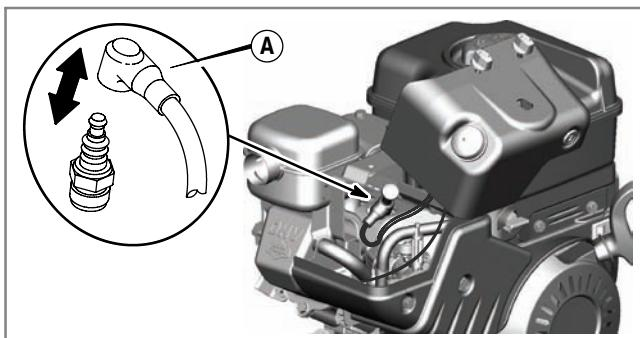

Figure 17
1. With engine off but still warm, disconnect the spark plug wire (**A**) and keep it away from the spark plug (Figure 17).